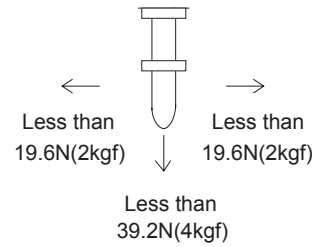

Fig.6.2 Stress onto the pins
- When too much stress is applied to the pins of the power supply, the internal connection may be weakened. As shown in Fig.6.2, avoid applying stress of more than 19.6N (2kgf) on the pins horizontally and more than 39.2N (4kgf) vertically.